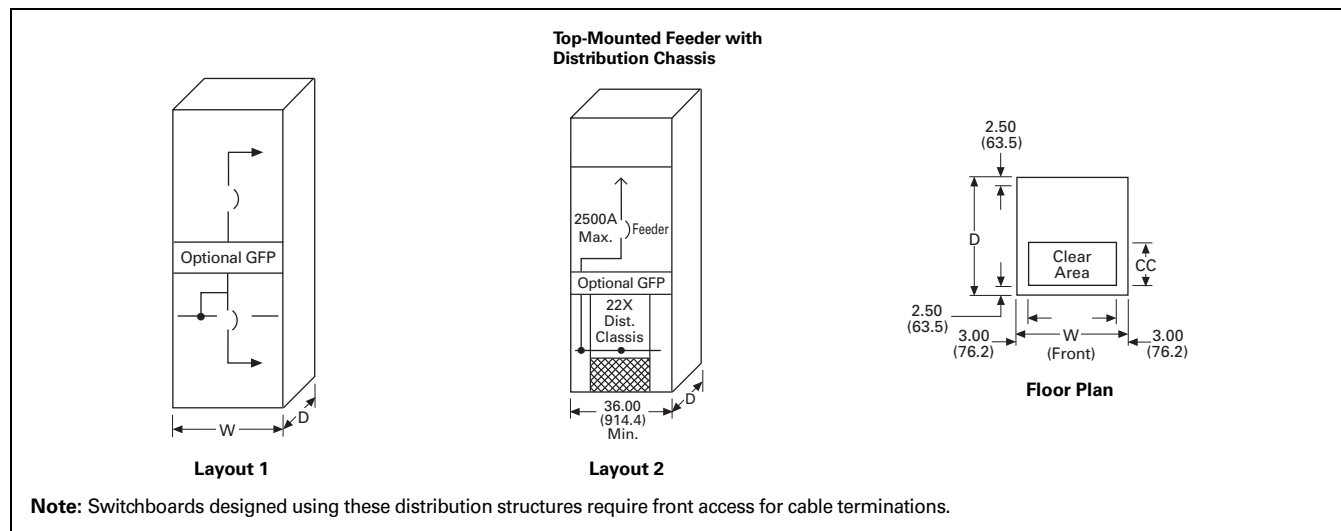

Figure 21.1-6. Individually Mounted Distribution Layouts
Table 21.1-9. Stacked Individually Mounted Distribution Structure Sizes for Figure 21.1-6 Layout 1 Only—Dimensions in Inches (mm) ②